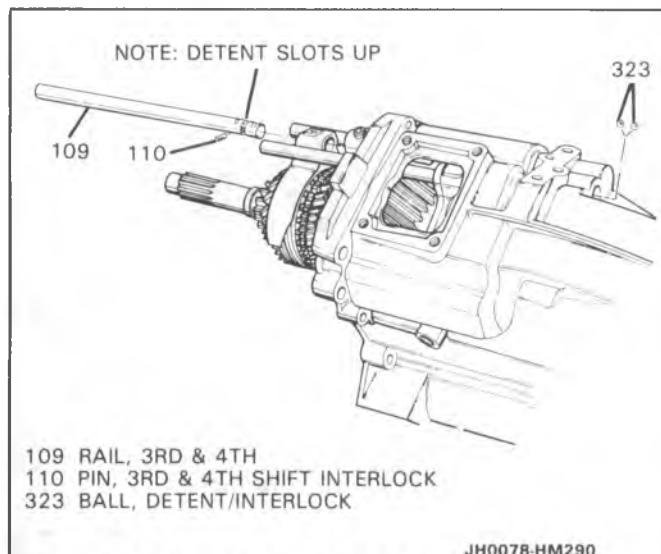

Figure 82 Interlock Balls and 3-4 Shift Rail Install
- Bolt (311) to 22 N·m (17 Lb. Ft.).
- 26. Two interlock balls (323) (Figure 82).